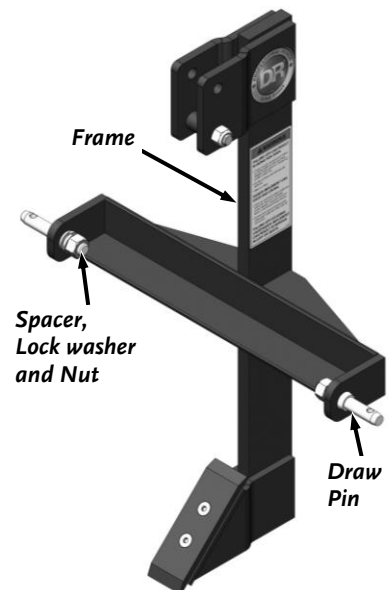

Figure 6
4. Install the PTO Class 1 Draw Pins to the Frame (**Figure 6**). Loosely secure with 1"ID X 1.38"OD Shim, 7/8"Lock Washer and 7/8"Hex Nut.